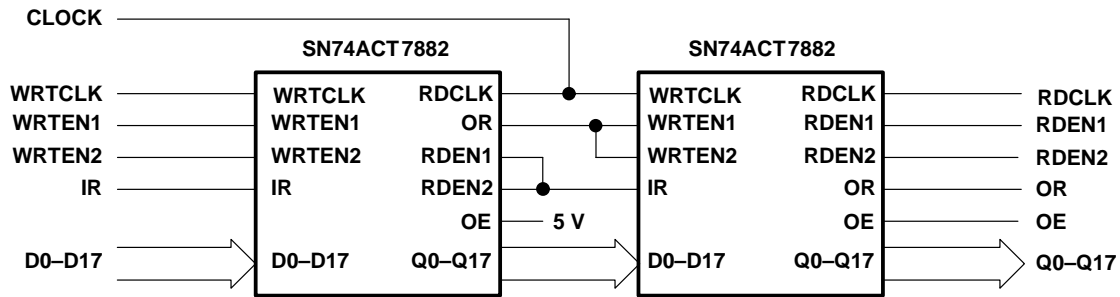

Figure 9. Word-Depth Expansion: 4096 Words × 18 Bits
The SN74ACT7882 is expandable in both word width and word depth. Word-depth expansion is accomplished by connecting the devices in series such that data flows through each device in the chain. Figure 9 shows two SN74ACT7882 devices configured for depth expansion. The common clock between the devices can be tied to either the write clock (WRTCLK) of the first device or the read clock (RDCLK) of the last device. The output-ready flag (OR) of the previous device and the input-ready flag (IR) of the next device maintain data flow to the last device in the chain whenever space is available.